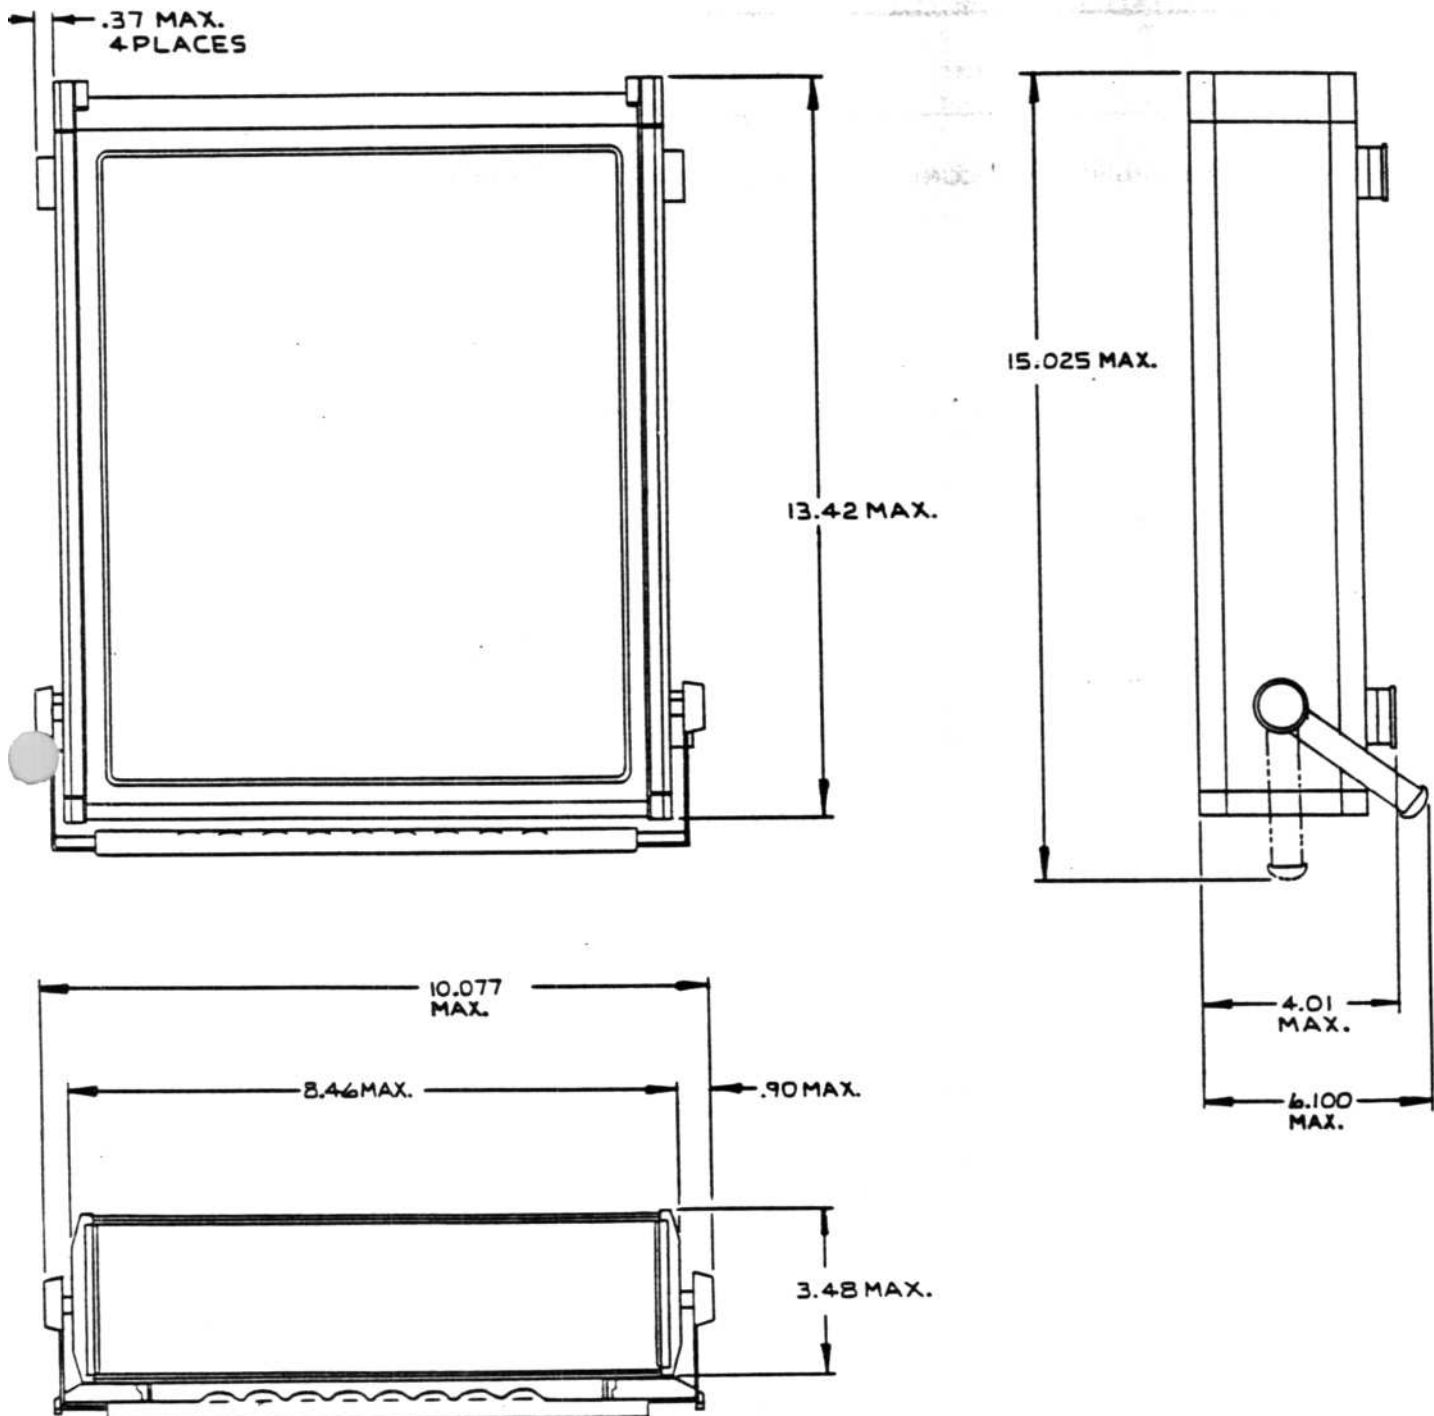

Figure 1.2 - 5001 Dimensional Outline
1.5.1 Refer to Figure 1.2 which shows a dimensional outline for the 5001.